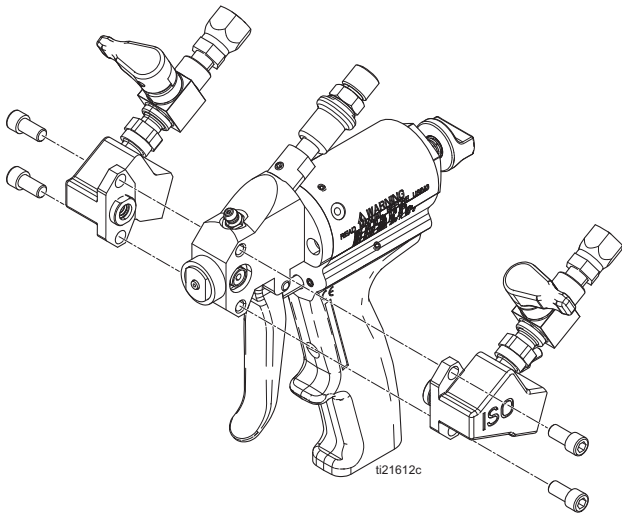

Fig. 11 Side Block Assembly
3. Verify that the piston safety lock (67) has been tightened and fully threaded into the gun.
4. Remove the side blocks by removing the screws. See FIG. 11, page 18.
5. Remove one of the side block seal housings (17) from the side block. Leave the seal (30) in housing and rinse with suitable solvent.